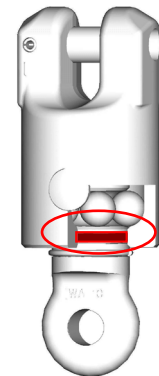

Fig. 2:
- The black rubber ring on the adapter rib must not be visible at the housing or protrude (Fig. 2).